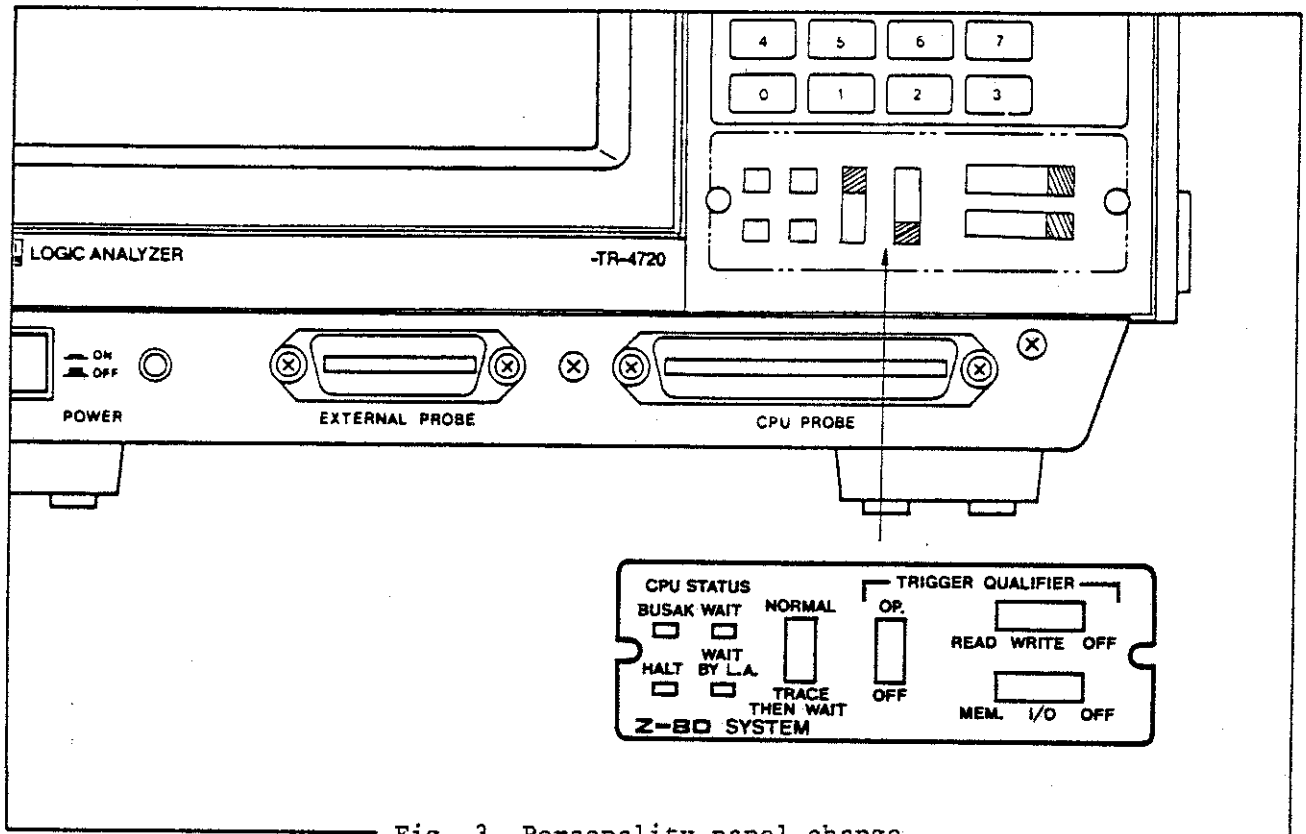

Fig. 3 Personality panel change
- 2) Mount the personality panel to be used by fitting its notches to the decorative screws. (See Fig. 3) Set all TRIGGER QUALIFIER switches to OFF.